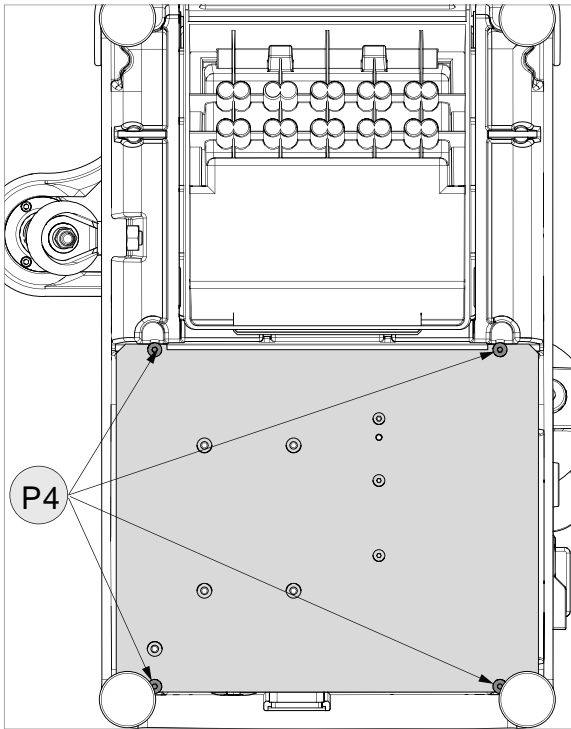

Fig. 54
- 1) **Turn off switch (P) and detach the power lead.**
- 2) Place the key-cutting machine on its back and loosen the 4 screws (P4) to remove the bottom safety plate (Fig. 54).
- 2) Turn the key-cutting machine on its back and loosen the 4 screws (P4) to remove the bottom safety guard (Fig. 54).
- 2) Turn the key-cutting machine onto its back and loosen the 4 screws (P4) to remove the bottom safety guard (Fig. 54).